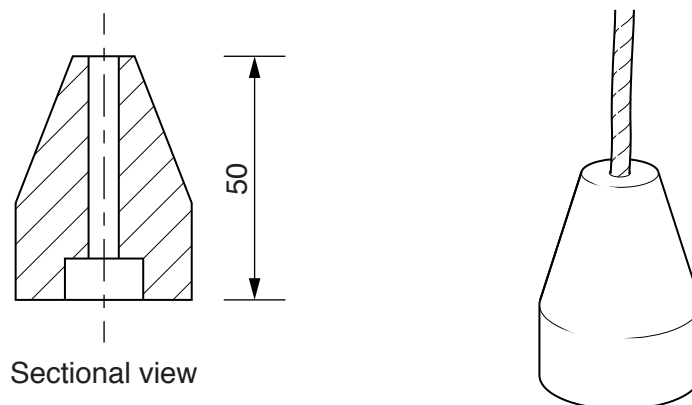

Fig. 11
- 16 Choose **two** of the following processes from Fig. 11.